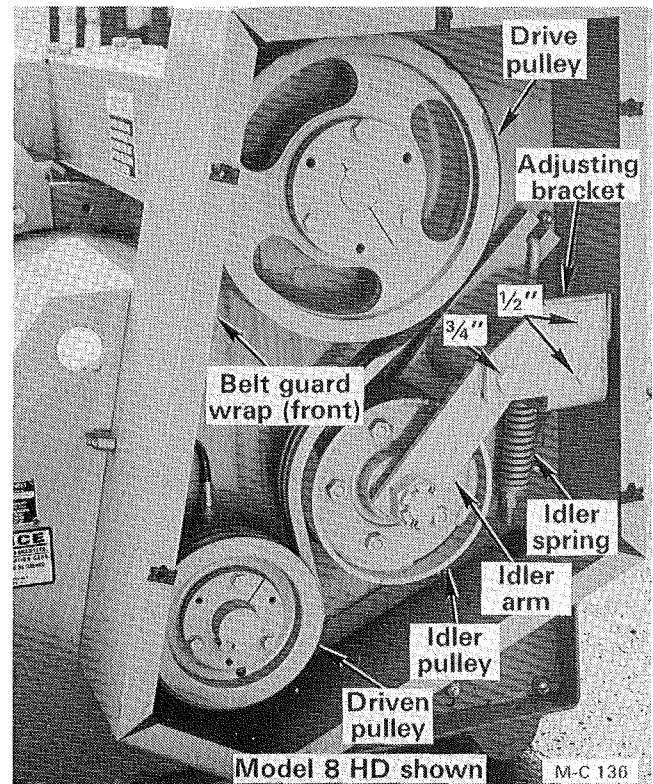

Figure 41
2. Remove the belt guard cover, front belt guard wrap and bearing lubrication hose, see Figure 41. Remove the drive belt(s). Refer to "Drive Belt Replacement" page 20 for procedure.